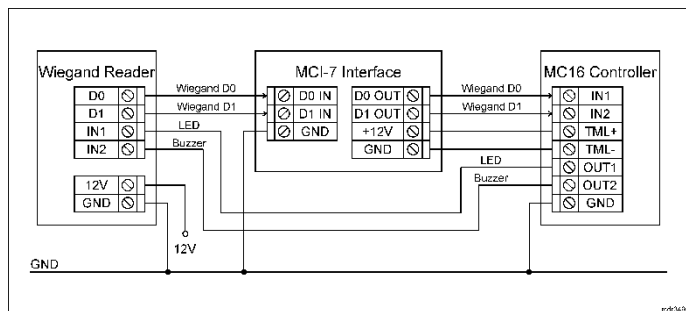

Fig. 2 Connection of MCI-7 interface to Wiegand reader and controller
- MCI-7 can be applied in various scenarios including connection to MCX4020BRD expander and PR402DR series controller (RACS 4 system). In both cases the connection diagram is similar to the fig. 2.